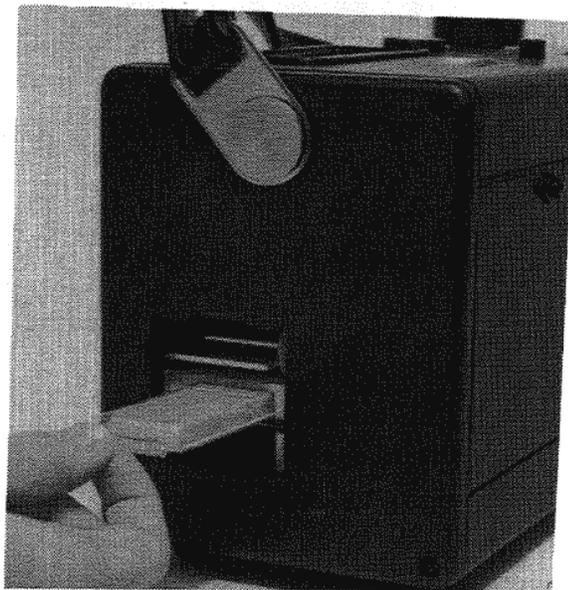

Figure 20. Removing the sponge tray
Step 2. Pull the sponge tray straight out (Figure 20).